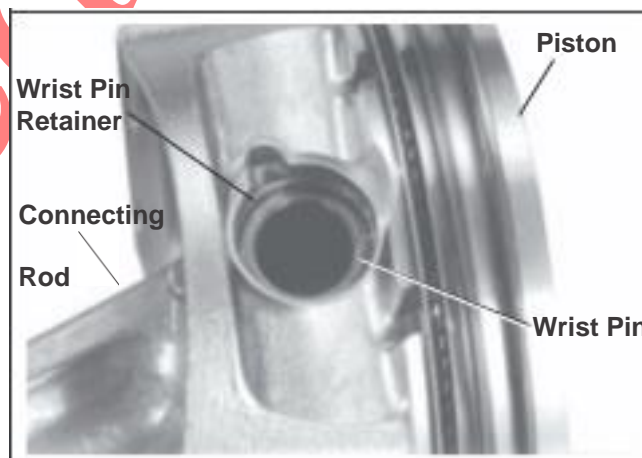

Figure 11-5. Installing Piston To Connecting Rod.
1. Assemble the piston, connecting rod, piston pin, and piston pin retainers. See Figure 11-5.